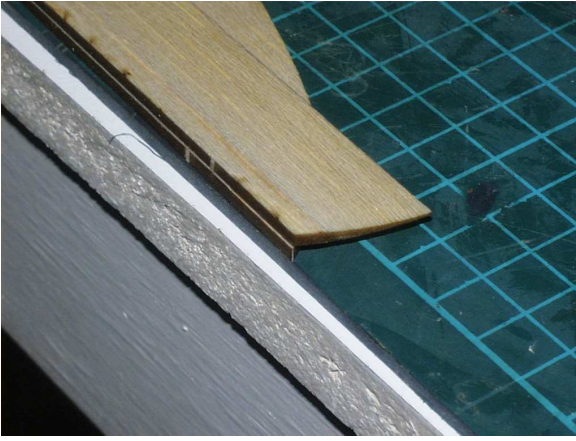

Figure 5.3: Elevator folded over
- Fold up the elevator and shave in the bevel for the hinge. As with the ailerons, do not over cut the bevel else you'll have ugly gaps in your hinge. (Figures 5.3 on the following page and 5.4 on the next page)